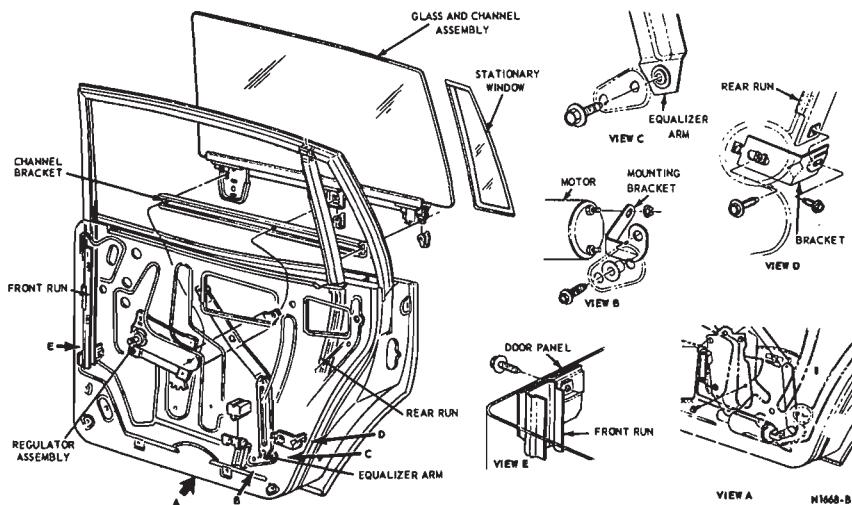

FIG. 16—Rear Door Window Adjustment—Fairlane and Montego Model 71
2. Loosen the screw and washer assemblies retaining the rear run lower bracket and the front run retaining bracket (Fig. 16).
3. Raise the window glass to the full up position. Tighten the two screw and washer assemblies (Fig. 16) securely.